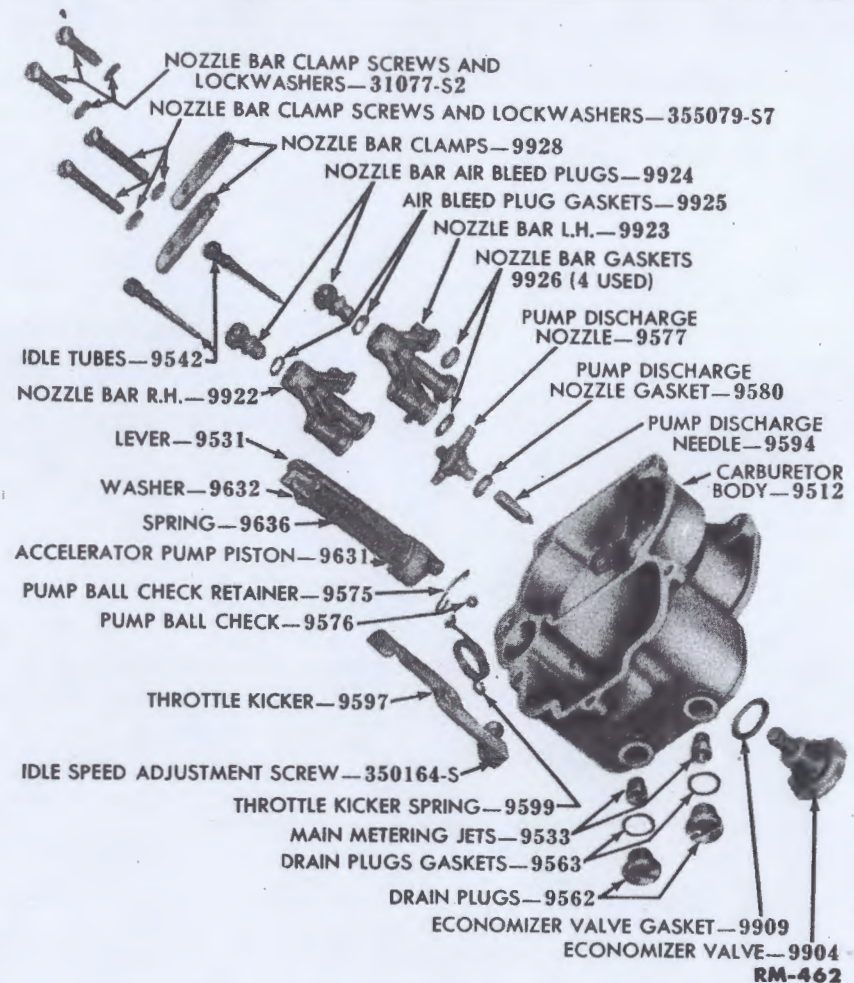
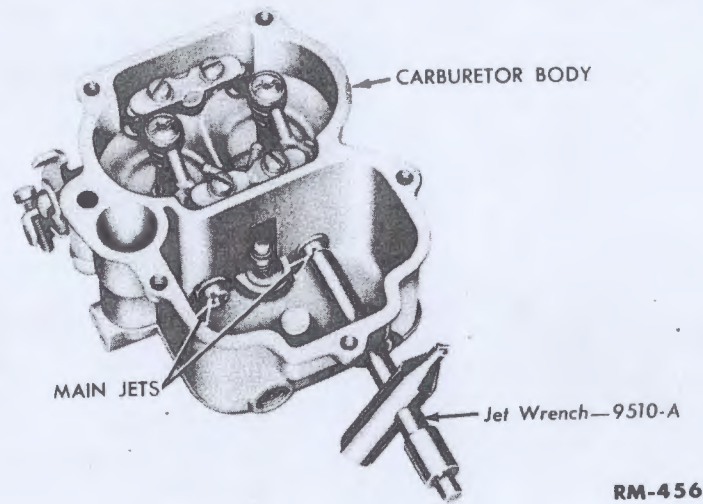

Figure 3—Main Body, Disassembled (Dual Downdraft)
Figure 4—Removing Main Jet
(3) **Disassemble Main Body.** Lift the accelerating pump assembly from the main body. Remove the two screws from each nozzle bar clamp (fig. 3), and remove the clamps. Lift the pump discharge nozzle and the two nozzle bars (fig. 3) from the main body. Remove the two drain plugs and gaskets from the main body. Remove the two main jets as shown in fig. 4. Remove the power valve and gasket. Remove the pump check ball retainer from the main body with a piece of wire with a hook on the end
(2) **Idle Tube.** Replace an idle tube (figs. 3 and 9) that is plugged, bent, damaged, or if the screw driver slot is damaged.
(3) **Main Jets.** Replace a main jet (figs. 3 and 9) if the threads are stripped or if the screw driver slot is damaged.
(5) **Nozzle Bar Air Bleed.** Replace a nozzle bar air bleed plug (figs. 3 and 9) that is clogged, if the threads are stripped, or if the screw driver slot is damaged.
(6) **Check Valve.** Replace the check ball (figs. 3 and 8) if it is damaged or corroded.
(8) **Pump Discharge Nozzle (Dual Downdraft Carburetor Only).** Replace a pump discharge nozzle (fig. 3) if it is plugged, broken, or damaged in any way.
(2) **Assemble Main Body.** Install the two main jets as shown in fig. 4. Install the two drain plugs and new drain gaskets. Install the power valve, using a new gasket. Place the pump discharge needle and pump discharge nozzle and a new gasket in the main body (fig. 3). Place four new nozzle bar gaskets in place in the main body. Place the two nozzle bars in the main body, and secure them to the main body with the two nozzle bar clamps (fig. 3). Install the pump check ball and retainer in the main body. Install the accelerator pump assembly in the main body.